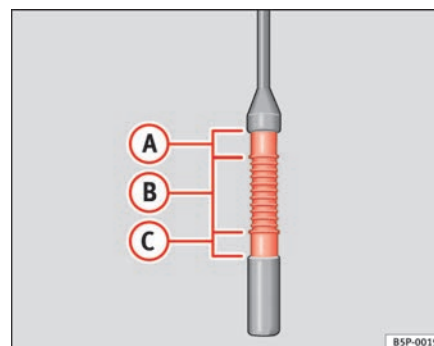

Fig. 156 Engine oil dipstick.
- Then pull it out once more and check the oil level ⇒ fig. 156. Top up with engine oil if necessary.